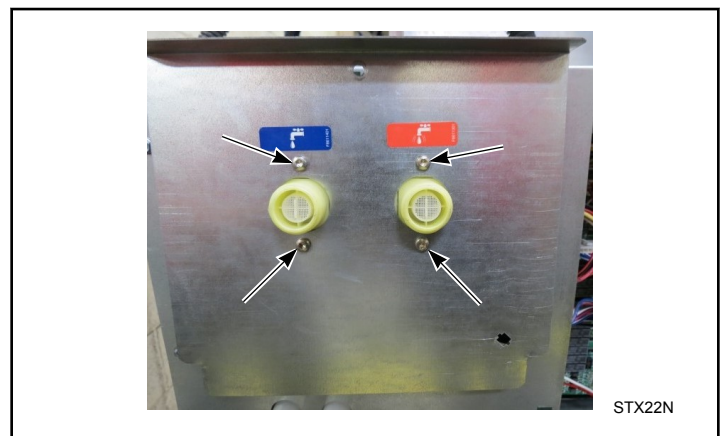

Figure 11
6. Remove four screws attaching fill valve to valve panel. Refer to *Figure 11*.